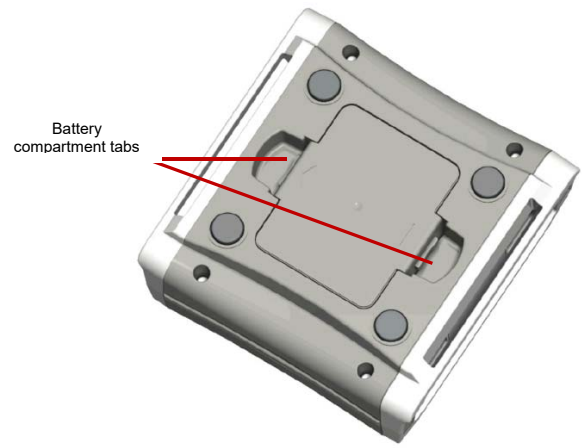

Figure 5. Model 4NR003 ENS (underside surface shown).
3. Press into each of the battery compartment tabs to release the battery compartment cover (Figure 5). Pull the cover to remove.